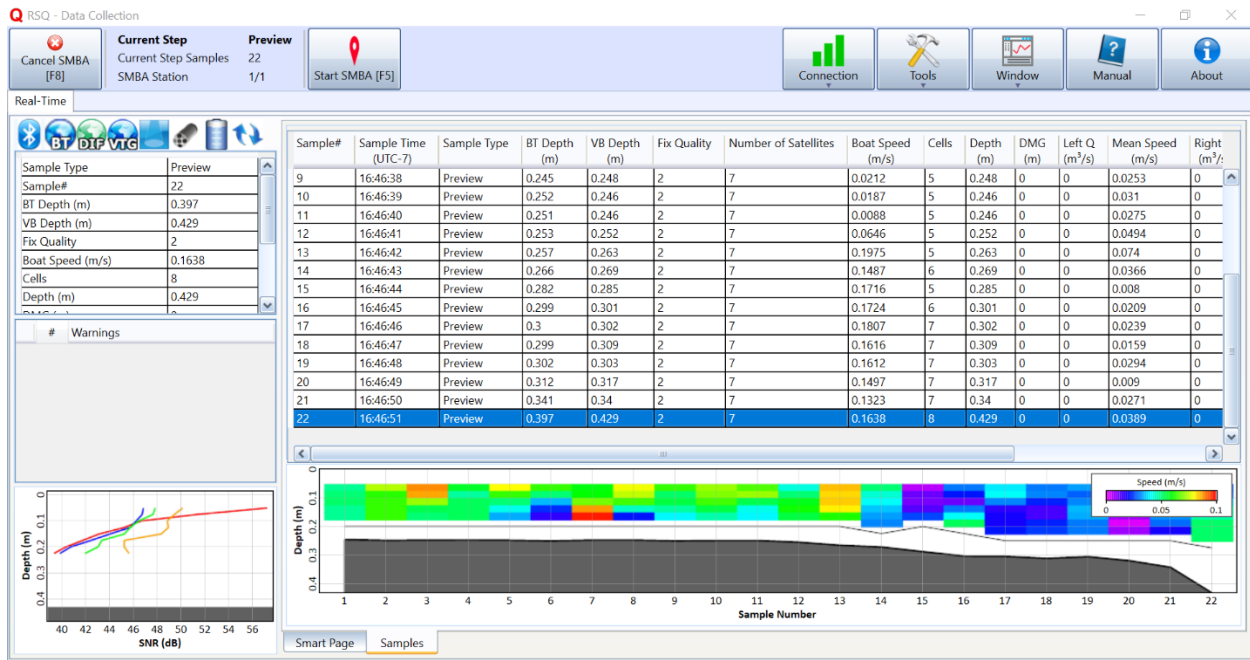

Figure 75. SMBA Preview
2. The user must enter the number of measurements desired (default is 1) and the number of samples per measurement (default is 300). Click OK to enter the preview screen shown in Figure 75.